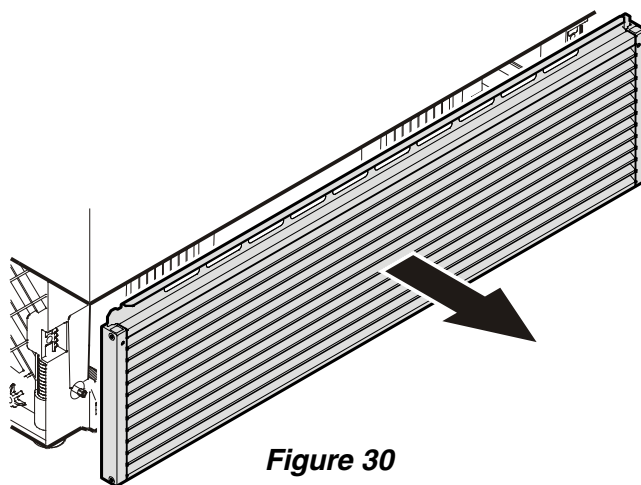

Figure 30
- Open the bottom freezer drawer and remove the ventilation grille by pulling forwards - **Figure 30**. The grille is supported magnetically so no tool is required for removing.